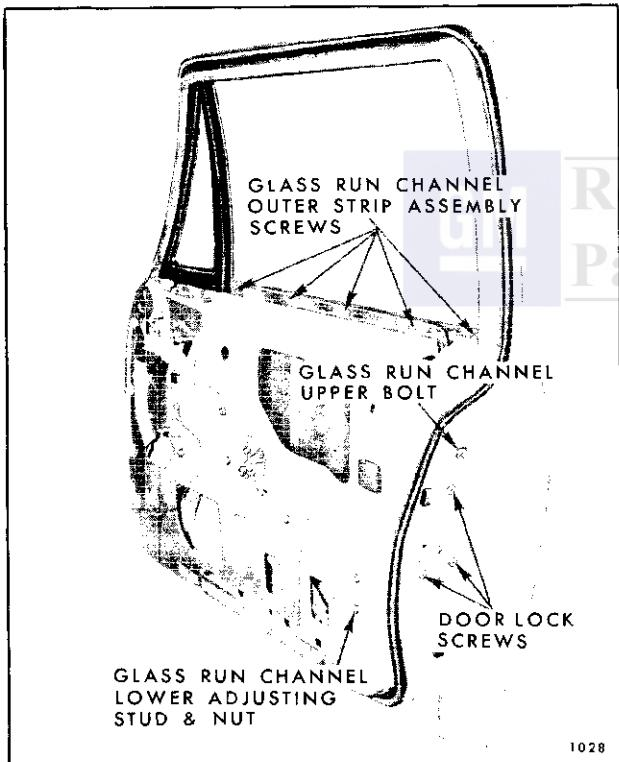

Fig. 6-74—Door Hardware Attachments - "B" Closed Styles
- Remove glass run channel upper attaching bolt (at belt) and lower adjusting stud nut (Fig. 6-74).